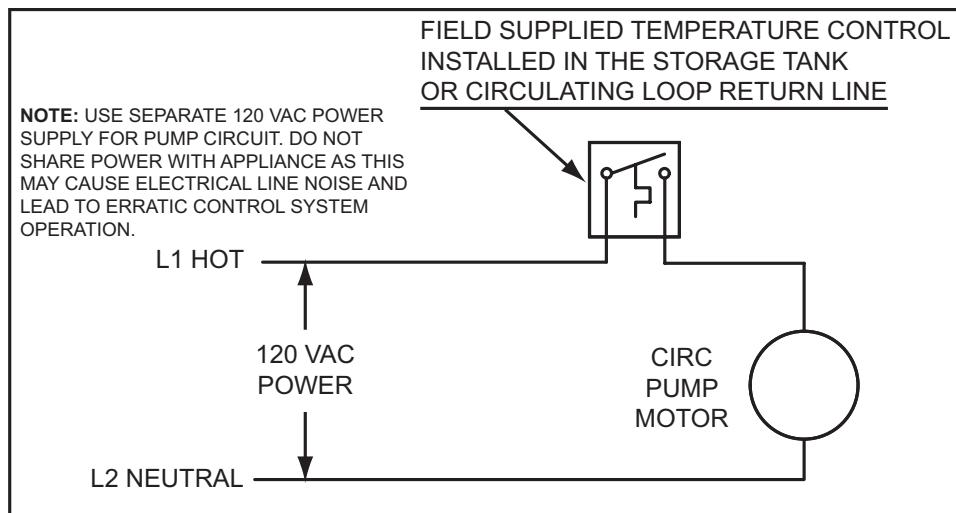

Figure 66. Recirculating Loop with Storage Tank or Building Recirculation
6. If a pump is being installed between a water heater and storage tank or on a building recirculation loop wire according to *Figure 66* (page 77).